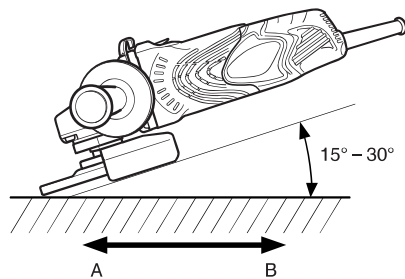

Fig. 2
Do not apply the entire surface of the depressed center wheel to the material to be ground. As shown in **Fig. 2**, the machine should be held at an angle of $15^\circ - 30^\circ$ so that the external edge of the depressed center wheel contacts the material at an optimum angle.
3. To prevent a new depressed center wheel from digging into the workpiece, initial grinding should be performed by drawing the grinder across the workpiece toward the operator (**Fig. 2** direction **B**). Once the leading edge of the depressed center wheel is properly abraded, grinding may be conducted in either direction.